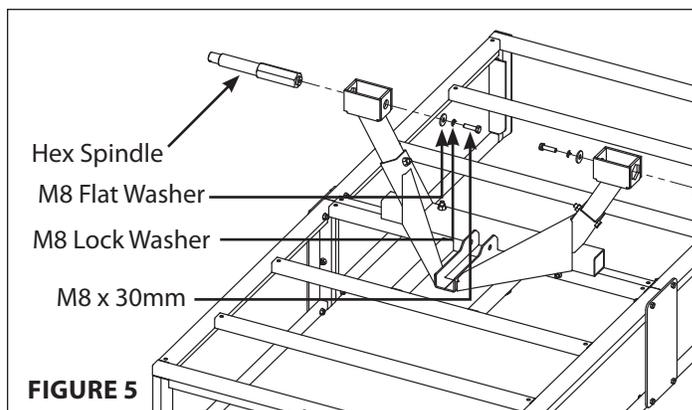

FIGURE 5
6. Assemble each hex axle spindle (24792) to each leg using (1) M8 x 30mm bolt, (1) M8 lock washer, (1) M8 flat washer for each side. Tighten these down completely. **SEE FIGURE 5.**